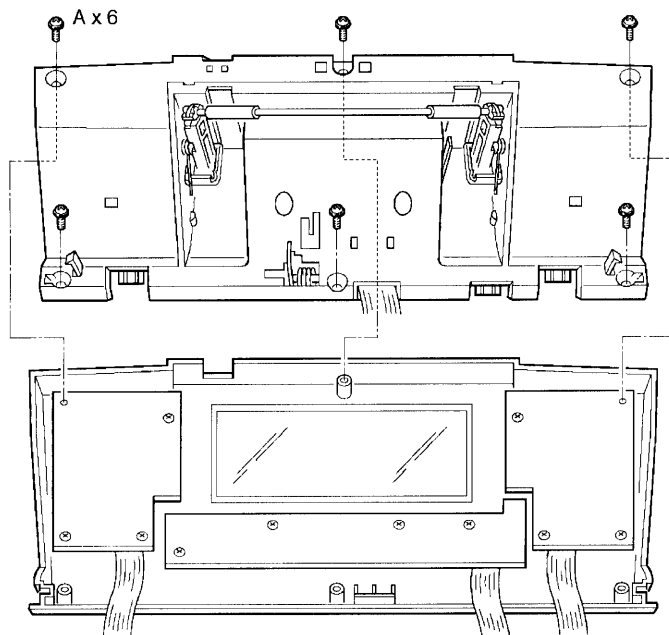

Figure-15
2. Remove the DISPLAY panel mounting screws (A 6 pcs.) as shown in Figure-15.